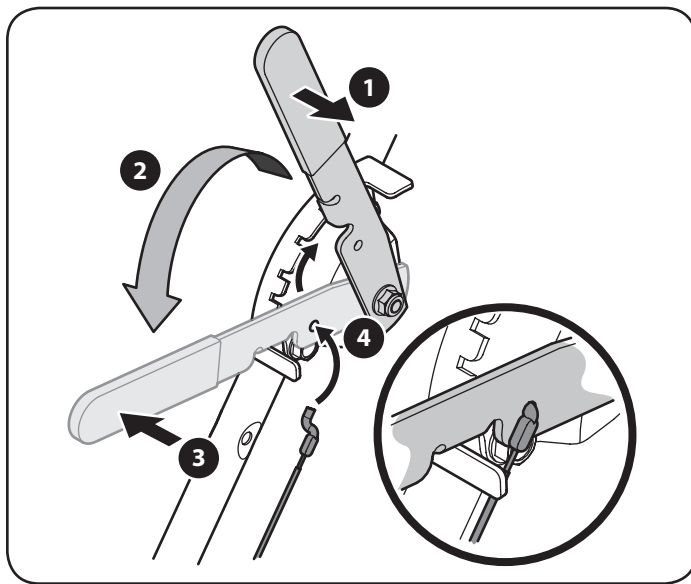

Figure 4
4. Hook the Z end of the depth control cable into the hole on the depth control lever as shown in Figure 4.